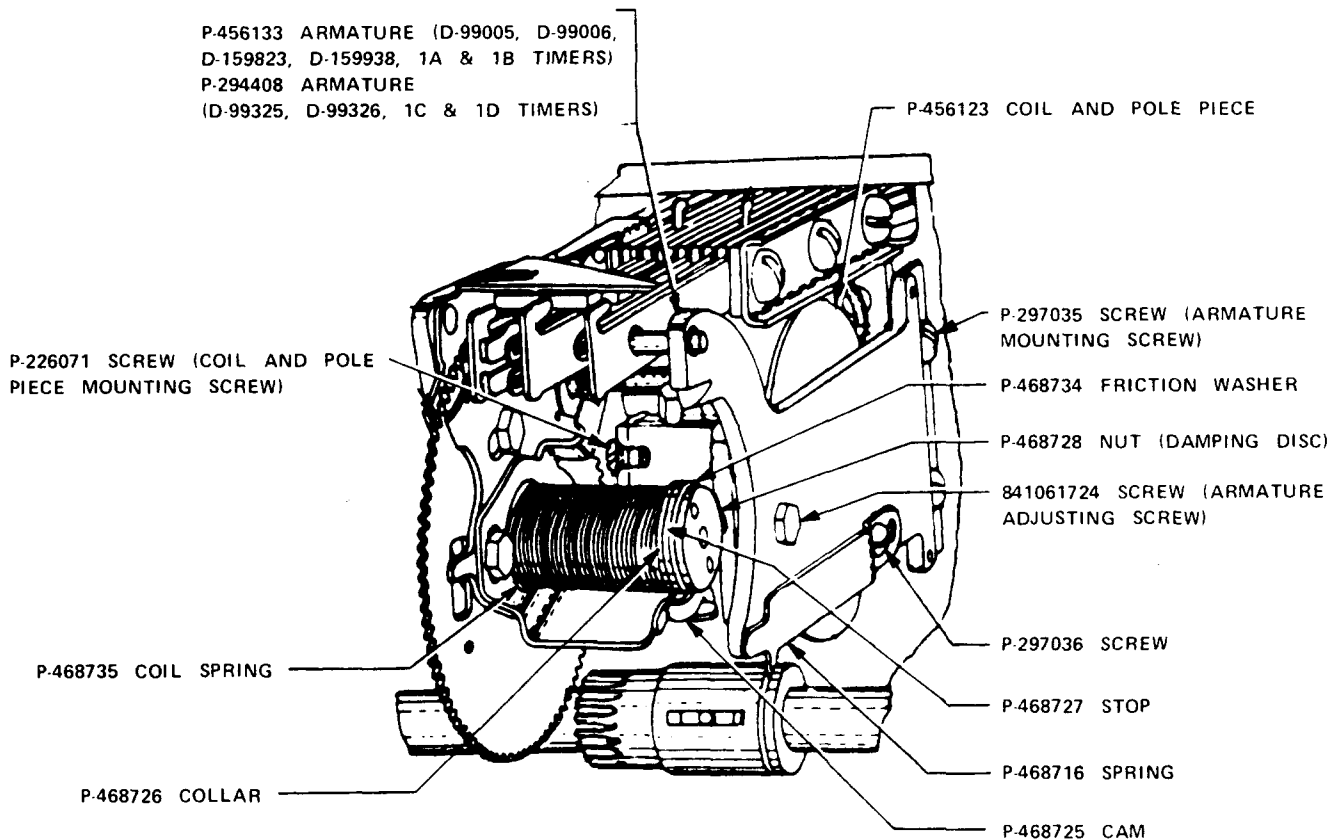

Fig. 1—Timer and Pinion
3.01 Figures 1 through 3 show the relationship of the various parts of the apparatus. The piece part number of these parts are given with the names as listed by the Western Electric Merchandise Department.
- (2) Using the 551A wrench, remove the armature adjusting screw shown in Fig. 1.
- (3) Using the KS-6854 screwdriver, remove the armature mounting screws.
- (4) Remove the armature and mount the new armature in reverse order.